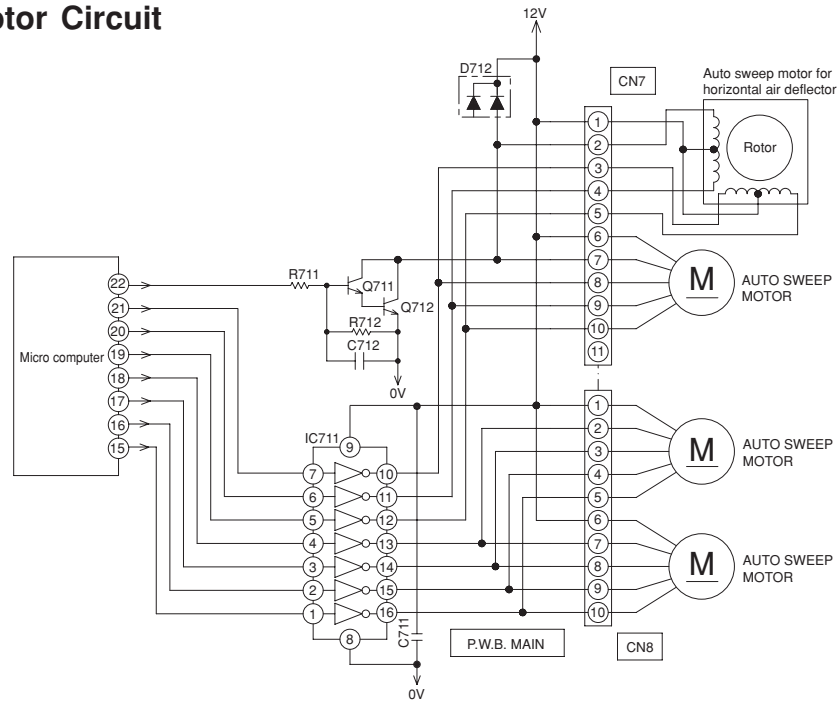
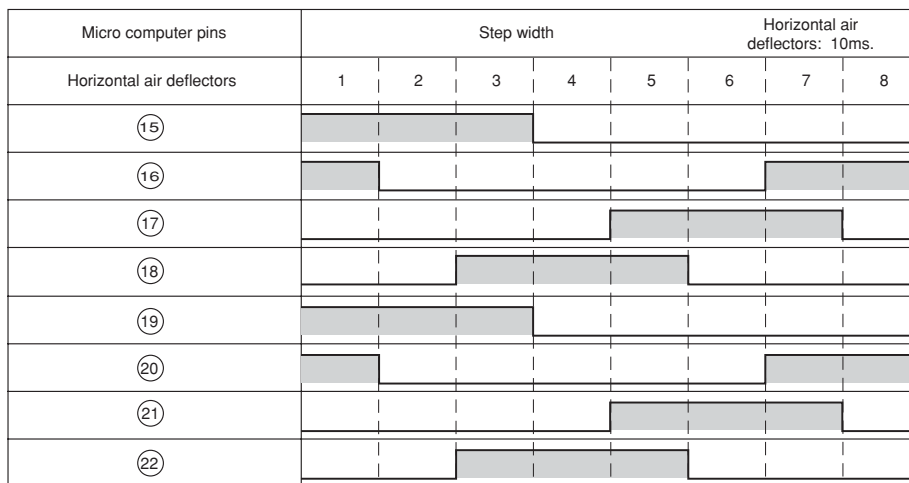

Fig.4-1
Fig.4-2 Micro computer Output Signals
- Fig. 4-1 shows the Auto sweep motor drive circuit; the signals shown in Fig.4-2 are output from pins ⑮ – ㉒ of micro computer.
- As the micro computer's outputs change as shown in Fig.4-2, the core of the auto sweep motor is excited to turn the rotor. Table 4-1 shows the rotation angle of horizontal air deflectors.